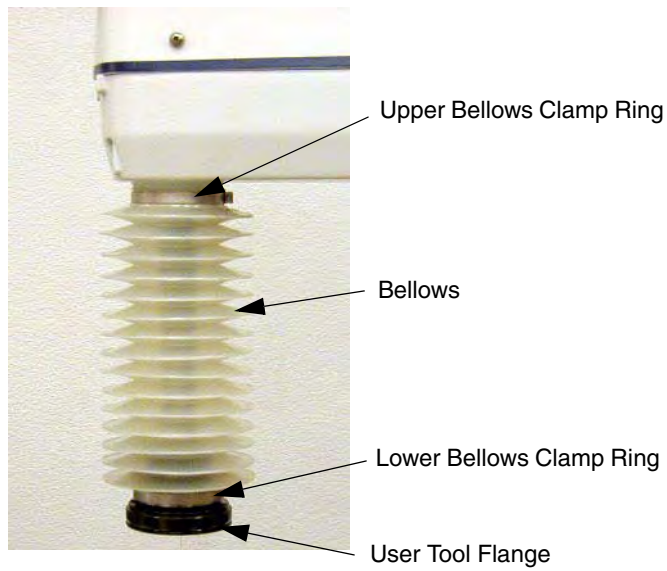

Figure 9-3. Cleanroom Bellows Replacement
1. Remove the lower bellows clamp ring from the bearing ring by loosening the screw on the clamp. See Figure 9-3.